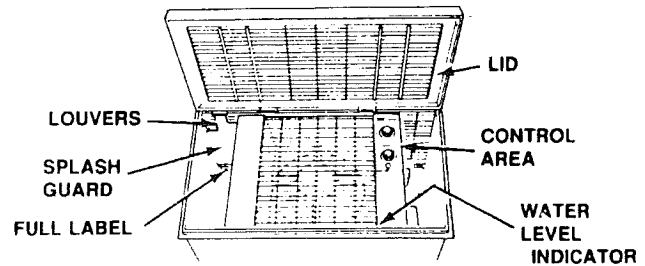

Figure 7
2. Locate controls on right side of humidifier. (See Fig. 7)